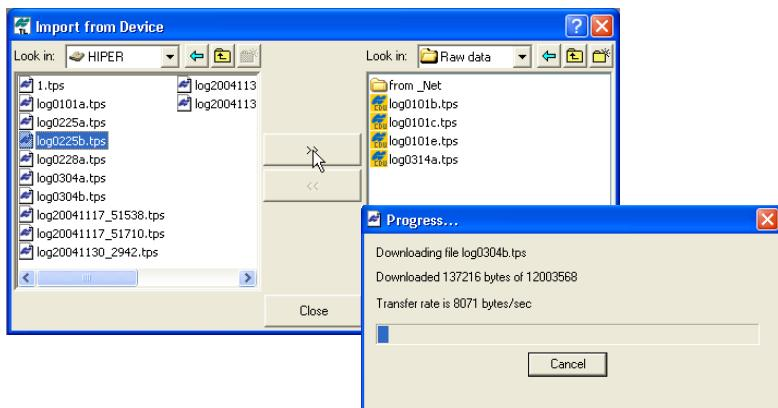

Figure 2-9. Select the Raw Data File to Import and View Import Progress
- In the right panel of the *Import From Device* window, navigate to and select, or create, a folder to save the files (Figure 2-9).
- To view the collected raw file, double click (or click *Select* in the pop-up menu) the desired receiver. To import the file(s) from the receiver to the computer and to save in the selected folder, highlight the desired file(s) and click the double arrows (Figure 2-9).
- The import in progress displays (Figure 2-9).